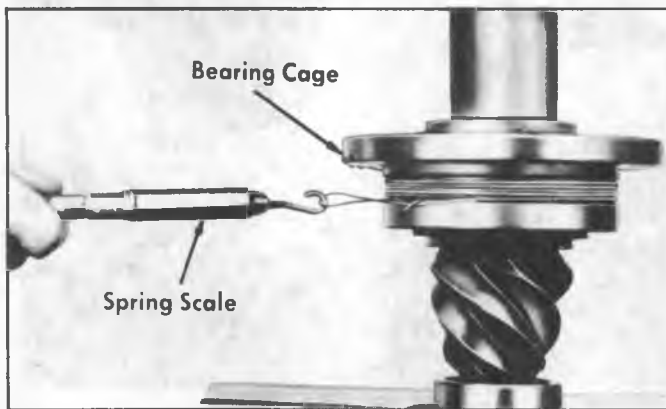

Fig. 31M—Checking Pinion Bearing Pre-Load
3. Wrap soft wire around cage and pull on horizontal line with a spring scale (fig. 31M). Rotating (not starting) torque should be within limits given in "Rear Axle Specifications". If not within limits, replace the spacer with one of a different thickness.